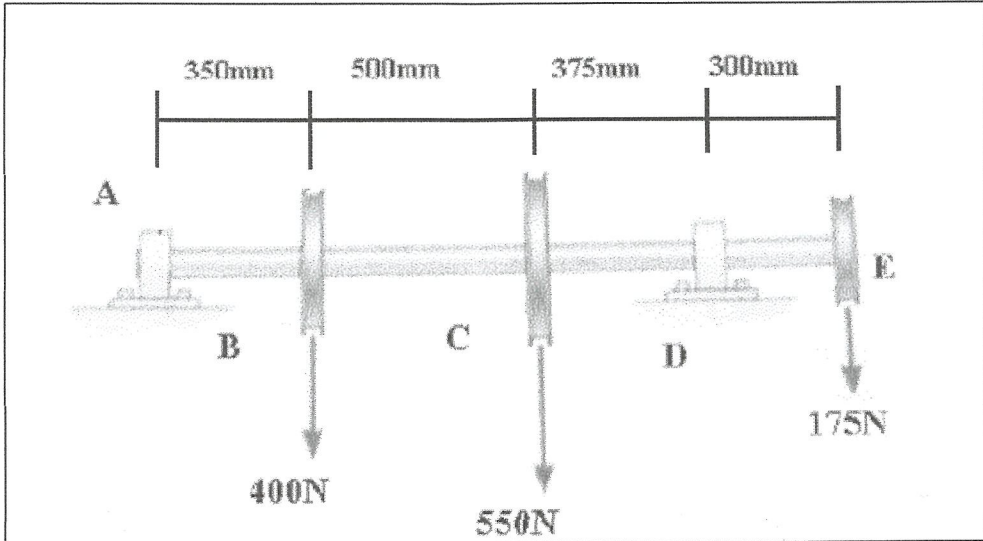

Figure Q3 (b)
- Q3** (a) Beams are usually described by the way they are supported. Name **TWO (2)** types of beams and explain with the aid of drawing. (6 markah)
- (b) **Figure Q3 (b)** shows a shaft with the bearings at A and D exert only vertical reactions. The loading is applied to the pulleys at B, C and E.